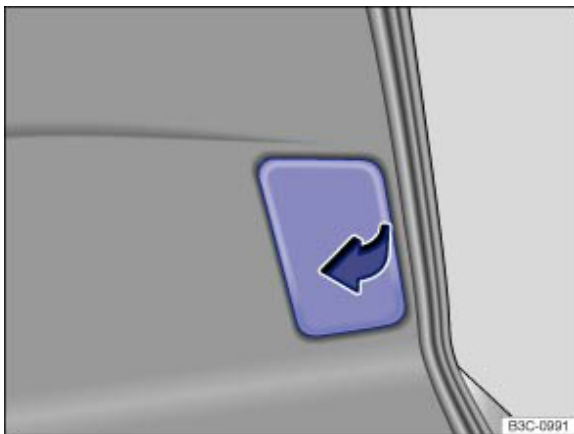

Fig. 246 In the boot lid: removing the cover
3. Take the screwdriver from the tool kit ( → Fig. 223 ) and use the flat blade to lever the cover off carefully → Fig. 246 .